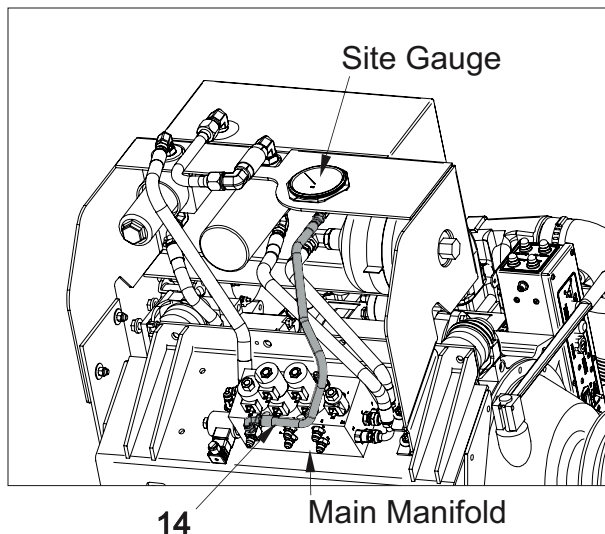

Figure 13 - Instal Site Gauge Hose
- B. Connect hose (11) 234149 to port “F” on manifold. Connect other end to hydraulic Accumulator (see Figure 13).
Connect hose (14) 254198 to port “G” on hydraulic. Connect other end to pressure gauge (see Figure 13).